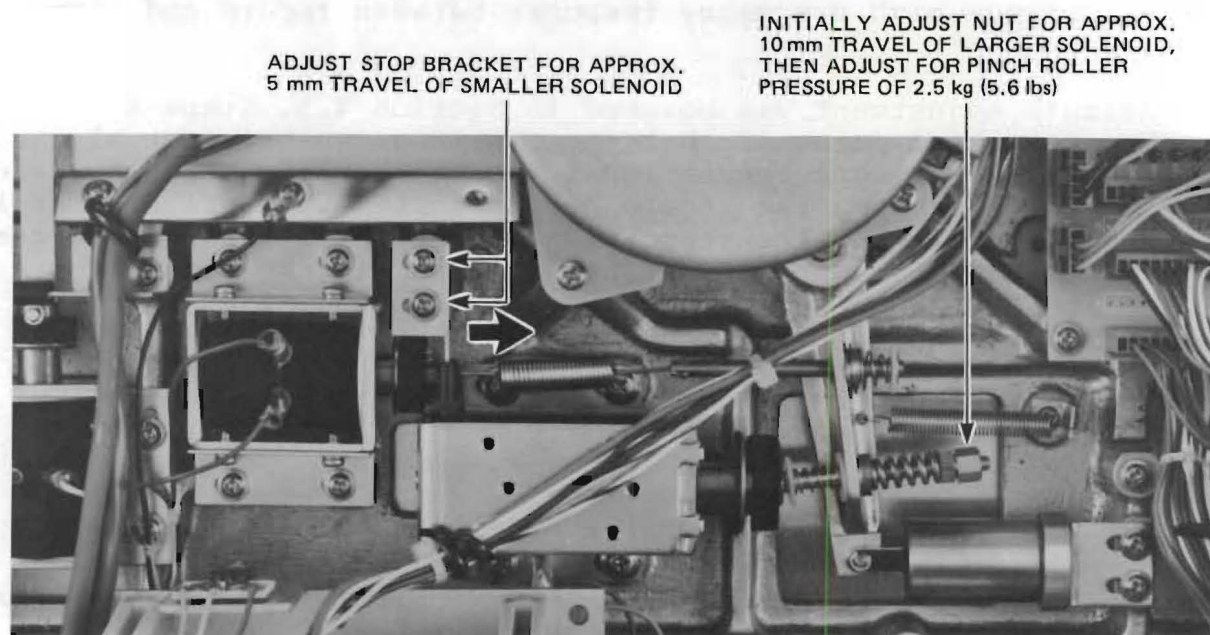

FIGURE 5-1. PINCH ROLLER SOLENOIDS & ADJUSTING POINTS
The MTR-10 pinch roller is actuated via a dual solenoid system. (Refer to figure 5-1.) In fast winding modes, the pinch roller moves farthest away from the capstan. In stop mode, the smaller solenoid is used to position the pinch roller near the capstan so that, when the machine goes into play or record, the required distance of pinch roller travel will be minimized. When the machine is actually placed in play or record mode, the larger solenoid pulls the pinch roller against the capstan. This 2-stage technique minimizes shock to the tape as well as any physical noise that might be caused by the pinch roller moving into operating position.
2. Similarly, check the travel of the plunger on the larger solenoid. It should be about 10 mm. If not, loosen the outer lock nut on the solenoid plunger extension, and adjust the inner nut to increase or decrease travel. (Refer to figure 5-1.) Do not tighten the lock nut as yet.